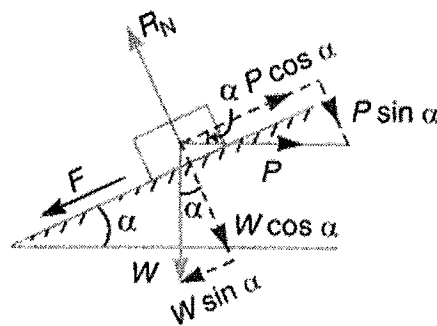

Figure 02
- Derive the equation for force required at the circumference of the screw to lift the load of a screw jack, $P= W \tan (\alpha + \phi)$ using Figure 02, where W is the load to be lifted and ϕ is the friction angle. (10 mark)